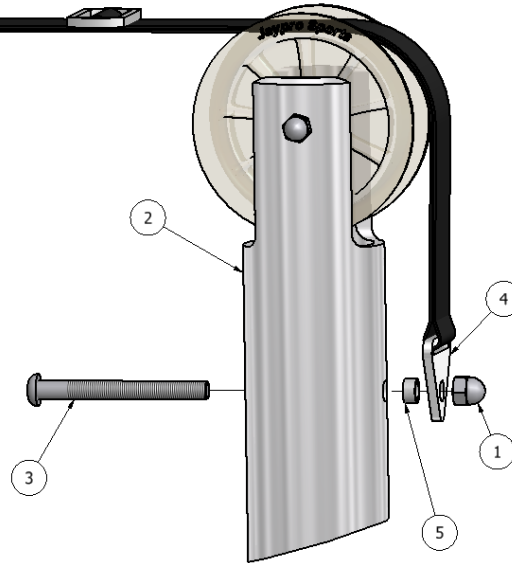

Figure 6-2: Install anchor strap.
5. Install the anchor strap to the upright without the winch (Figure 6-2).